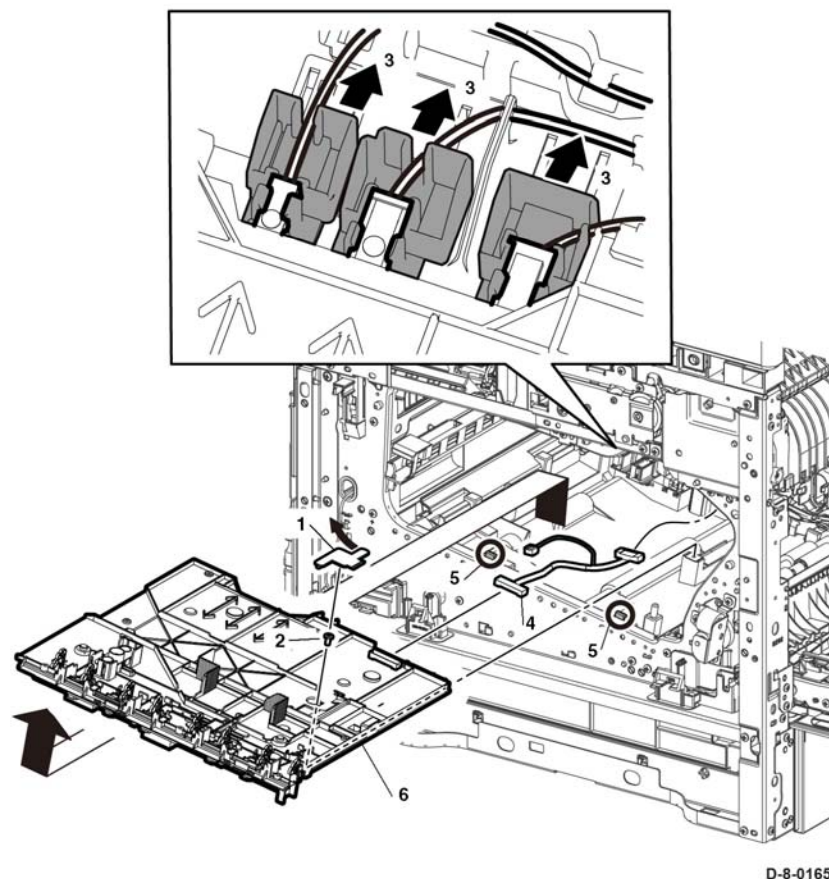

Figure 1 HVPS guide assembly removal
- n. Remove the HVPS guide assembly, Figure 1:
- ii. Remove the screw (2) fastening the HVPS guide assembly (6).
- iii. Push the faston holders in the direction of the arrows to remove the faston terminals (P/J501, P/J502, P/JT601) (3).
- iv. Disconnect connector, P/J100 (4).
- v. Release two hooks (5), then remove the HVPS guide assembly (6) in the direction of the arrow.